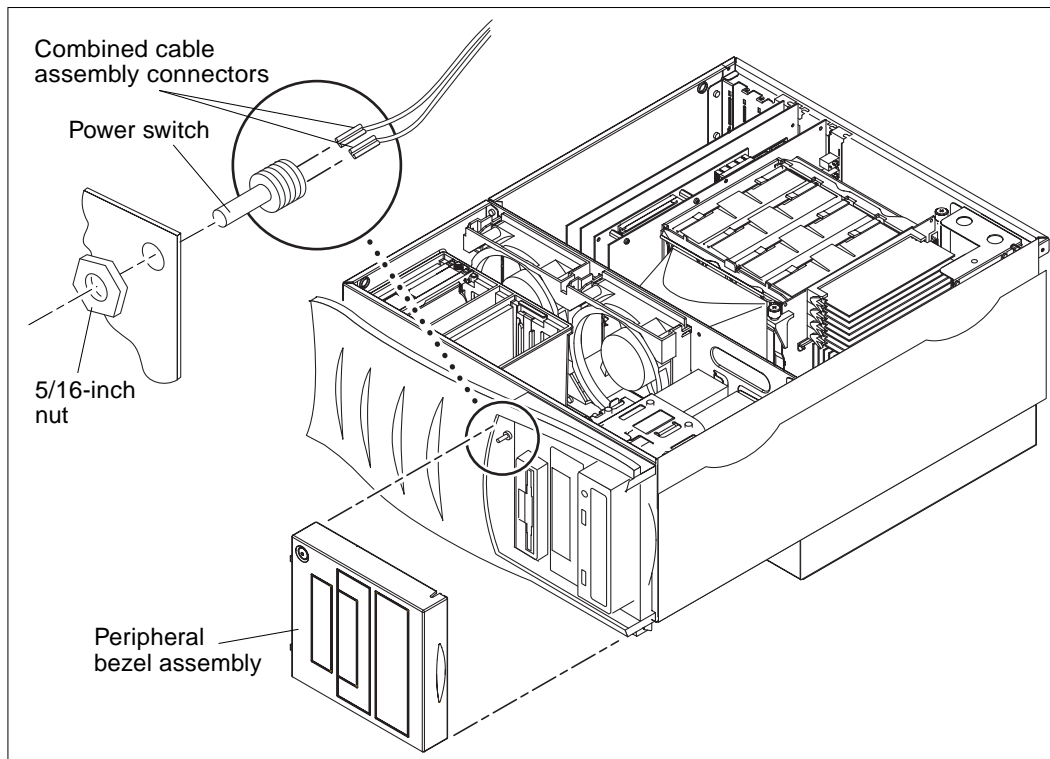

FIGURE 7-3 Removing and Replacing the Power Switch Assembly
2. Attach the antistatic wrist strap (FIGURE 7-3).
4. Remove the power switch assembly as follows (FIGURE 7-3):
1. Replace the power switch assembly as follows (FIGURE 7-3):